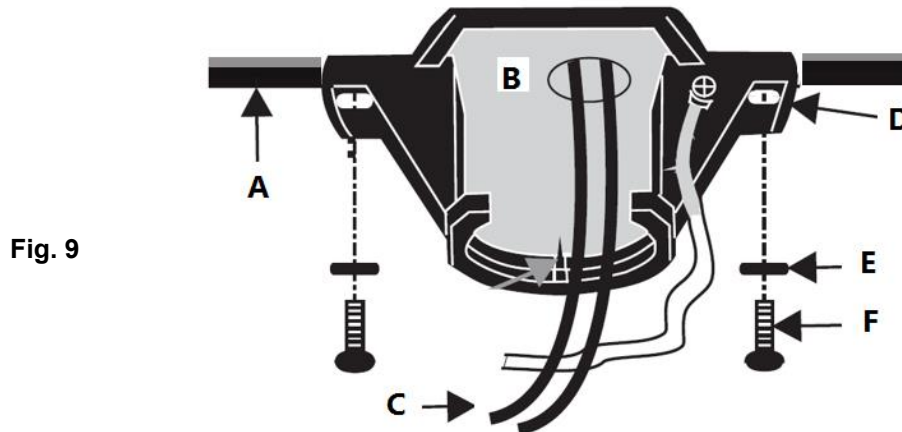

Fig. 9
Install the ceiling mounting bracket (D) on the outlet box (B) with the mounting screws (F) provided with the outlet box and washers (E) provided with fan. **Fig. 9**